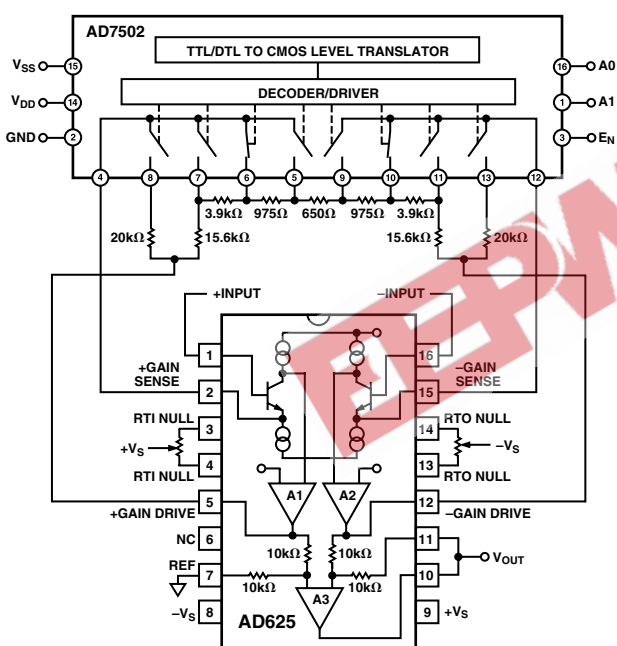

Figure 38. SPGA in a Gain of 16
Figure 38 shows an AD625 based SPGA with possible gains of 1, 4, 16, 64.  $R_G$  equals the resistance between the gain sense lines (Pins 2 and 15) of the AD625. In Figure 38,  $R_G$  equals the sum of the two 975  $\Omega$  resistors and the 650  $\Omega$  resistor, or 2600  $\Omega$ .  $R_F$  equals the resistance between the gain sense and the gain drive pins (Pins 12 and 15, or Pins 2 and 5), that is  $R_F$  equals the 15.6 k $\Omega$  resistor plus the 3.9 k $\Omega$  resistor, or 19.5 k $\Omega$ . The gain, therefore equals:
can be used to calculate the necessary feedback resistors for any set of gains. This formula yields a network with a total resistance of 40 kΩ. A dummy variable (j) serves as a counter to keep a running total of the preceding feedback resistors. To illustrate how the formula can be applied, an example similar to the calculation used for the resistor network in Figure 38 is examined below.
- 2) Before making any calculations it is advised to draw a resistor network similar to the network in Figure 41. The network will have  $(2 \times M) + 1$  resistors, where M = number of gains. For Figure 38  $M = 3$  (4, 16, 64), therefore, the resistor string will have seven resistors (plus the two 20 kΩ “side” resistors for unity gain).
- 5) If different resistor values are desired, all the resistors in the network can be scaled by some convenient factor. However, raising the impedance will increase the RTO errors, lowering the total network resistance below 20 kΩ can result in amplifier instability. More information on this phenomenon is given in the RPGA section of the data sheet. The scale factor will not affect the unity gain feedback resistors. The resistor network in Figure 38 has a scaling factor of  $650/625 = 1.04$ , if this factor is used on  $R_{F_1}$ ,  $R_{F_2}$ ,  $R_{F_3}$ , and  $R_G$ , then the resistor values will match exactly.